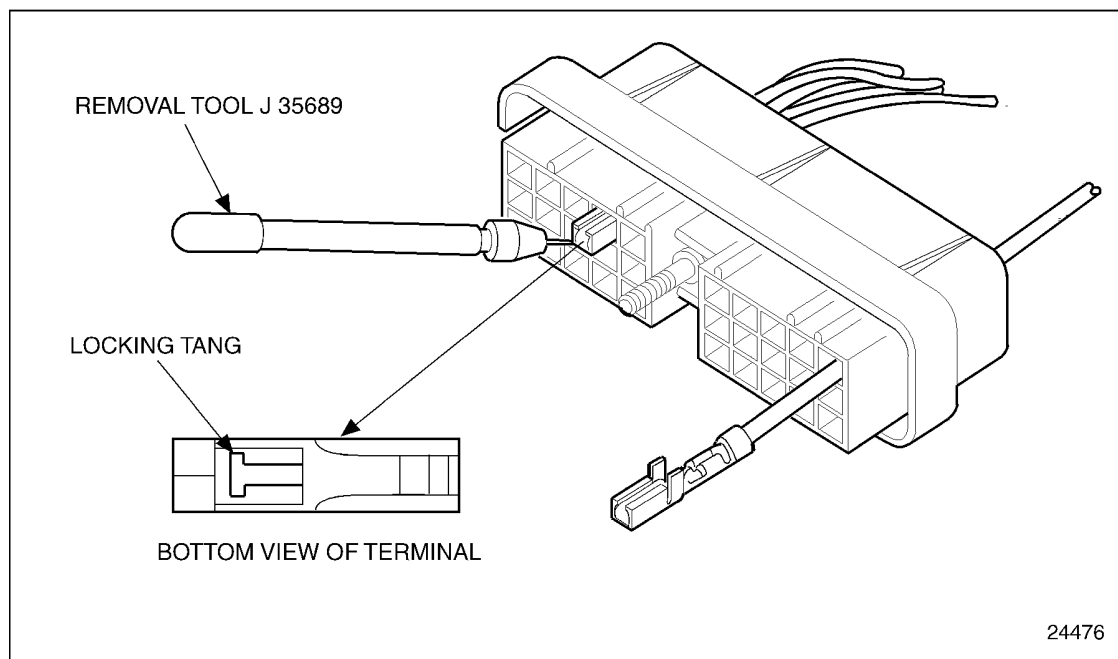

Figure 8-19 Terminal Removal
1. Insert the removal tool into the cavity of the connector, placing the tip of the tool between the locking tang of the terminal and the wall of the cavity. See Figure 8-19.